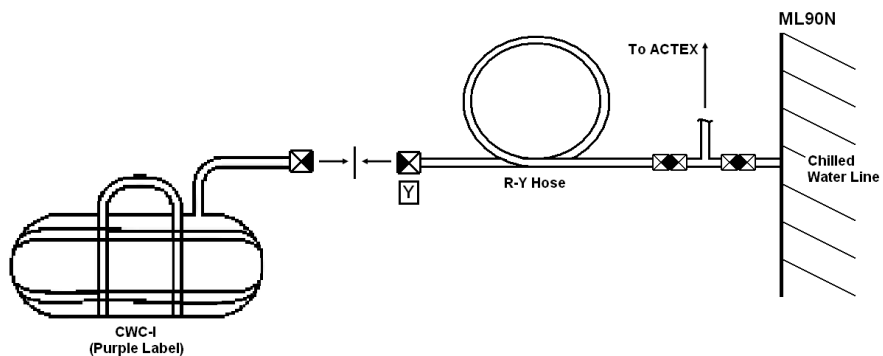

Figure 5-8.- CWC-I fill initiation.
6. Connect CWC-I to R-Y Hose (see fig 5-8)